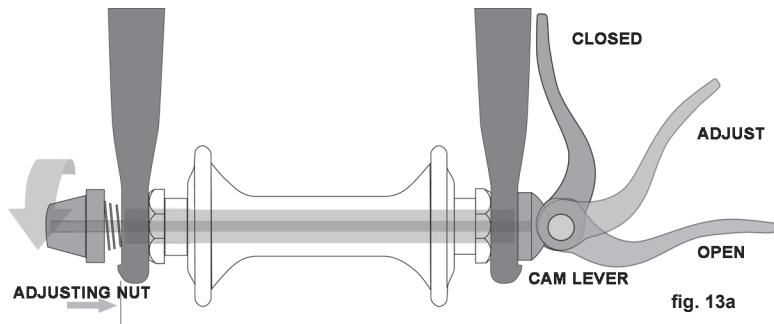
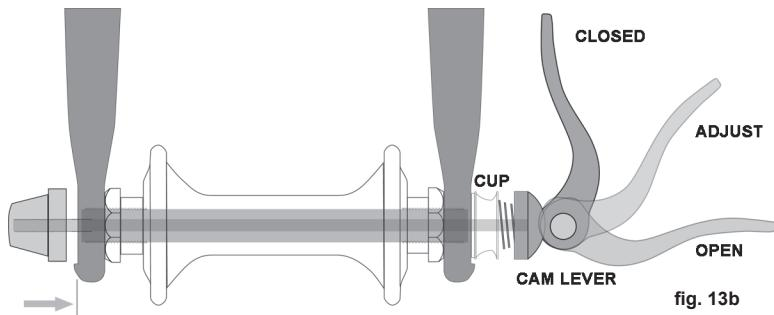

fig. 13a
fig. 13b
1. A hollow axle with a shaft ("skewer") running through it which has an adjustable tension nut on one end and an over-center cam lever on the other (cam-action system, **fig. 13a & 13b**).
There are currently two types of over-center cam wheel retention mechanisms: the traditional over-center cam (fig. 13a) and the cam-and-cup system (fig. 13b). Both use an over-center cam-action to clamp the e-bike's
a. Adjusting the traditional cam-action mechanism (fig. 13a)
b. Adjusting the cam-and-cup mechanism (fig. 13b)
2. If your e-bike has a cam-action front wheel retention, move the cam lever from the locked or CLOSED position to the OPEN position (**figs. 13a & 13b**). If your e-bike has through-bolt or bolt-on front wheel retention, loosen the fastener(s) a few turns counter-clockwise using an appropriate wrench, lock key or the integral lever.
3. If your front fork has a clip-on type secondary retention device, disengage it. If your front fork has an integral secondary retention device, and a traditional cam-action system (**fig. 13a**) loosen the tension adjusting nut enough to allow removing the wheel from the dropouts. If your front wheel uses a cam-and-cup system, (**fig. 13b**) squeeze the cup and cam lever together while removing the wheel. No rotation of any part is necessary with the cam-and-cup system.
4. If your e-bike has a thru-axle front wheel mounting system (**figs. 13a & 13b**), loosen and remove the thru-axle according to the manufacturer's instructions, then remove the front wheel.
1. If your e-bike has a cam-action front wheel retention, move the cam lever so that it curves away from the wheel (**figs. 13a & 13b**). This is the OPEN position. If your e-bike has a thru-axle, through-bolt or bolt-on front wheel retention, go to the next step.
2. With the steering fork facing forward, insert the wheel between the fork blades so that the axle seats firmly at the top of the fork dropouts. The cam lever, if there is one, should be on rider's left side of the e-bike (**fig. 13a & 13b**). If your e-bike has a clip-on type secondary retention device, engage it.
4. If your e-bike has a traditional cam-action mechanism: holding the cam lever in the ADJUST position with your right hand, tighten the tension adjusting nut with your left hand until it is finger tight against the fork dropout (**fig. 13a**). If you have a cam-and-cup system: the nut and cup (**fig. 13b**) will have snapped into the recessed area of the fork dropouts and no adjustment should be required.
it into the CLOSED position (**fig. 13a & 13b**). The lever should now be parallel to the fork blade and curved toward the wheel. To apply enough clamping force, you should have to wrap your fingers around the fork blade for leverage, and the lever should leave a clear imprint in the palm of your hand.
(b) With a through-bolt or bolt-on system, tighten the fasteners to the torque specifications in Appendix C or the hub manufacturer's instructions. (c) With a thru-axle system, tighten the thru-axle (**figs. 13a & 13b**) according to the manufacturer's instructions.
4. If your e-bike has a cam-action front wheel retention, move the cam lever from the locked or CLOSED position to the OPEN position (**figs. 13a & 13b**). If your e-bike has through-bolt or bolt-on front wheel retention, loosen the fastener(s) a few turns counter-clockwise using an appropriate wrench, lock key or the integral lever.
5. If your e-bike has a thru-axle rear wheel mounting system (**figs. 13a & 13b**), loosen and remove the thru-axle according to the manufacturer's instructions.
1. With a cam-action system, move the cam lever to the OPEN position (see **figs. 13a & 13b**). The lever should be on the side of the wheel opposite the derailleur and freewheel sprockets.
- (a) With a cam-action system, move the cam lever upwards and swing it into the CLOSED position (**figs. 13a & 13b**). The lever should now be parallel to the seat stay or chain stay and curved toward the wheel. To apply enough clamping force, you should have to wrap your fingers around the fork blade for leverage, and the lever should leave a clear imprint in the palm of your hand.
- (c) With a thru-axle system, tighten the thru-axle (**figs. 13a & 13b**) according to the manufacturer's instructions.